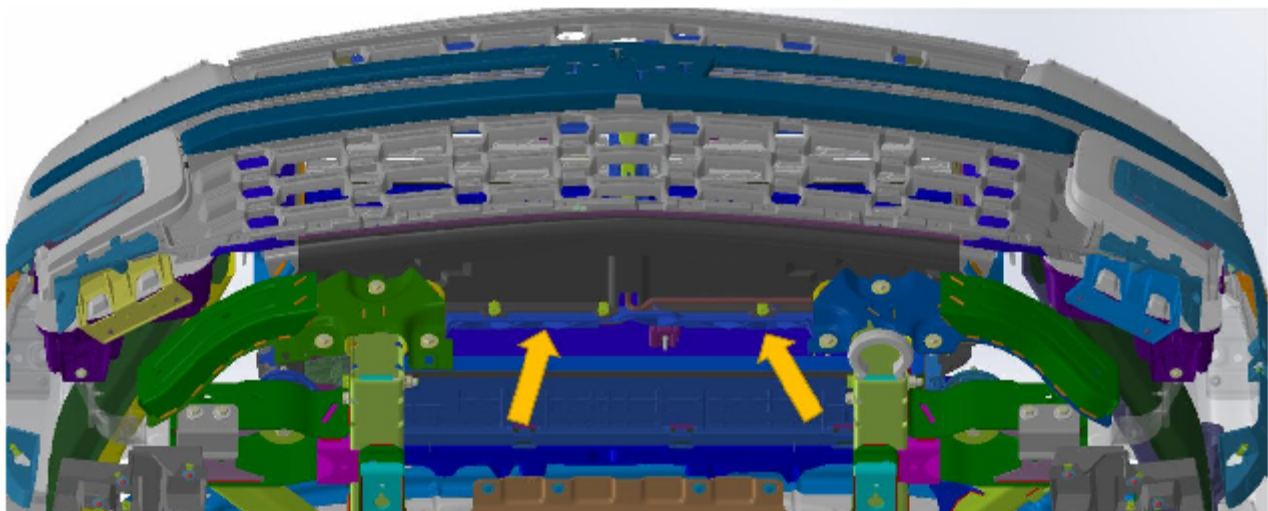
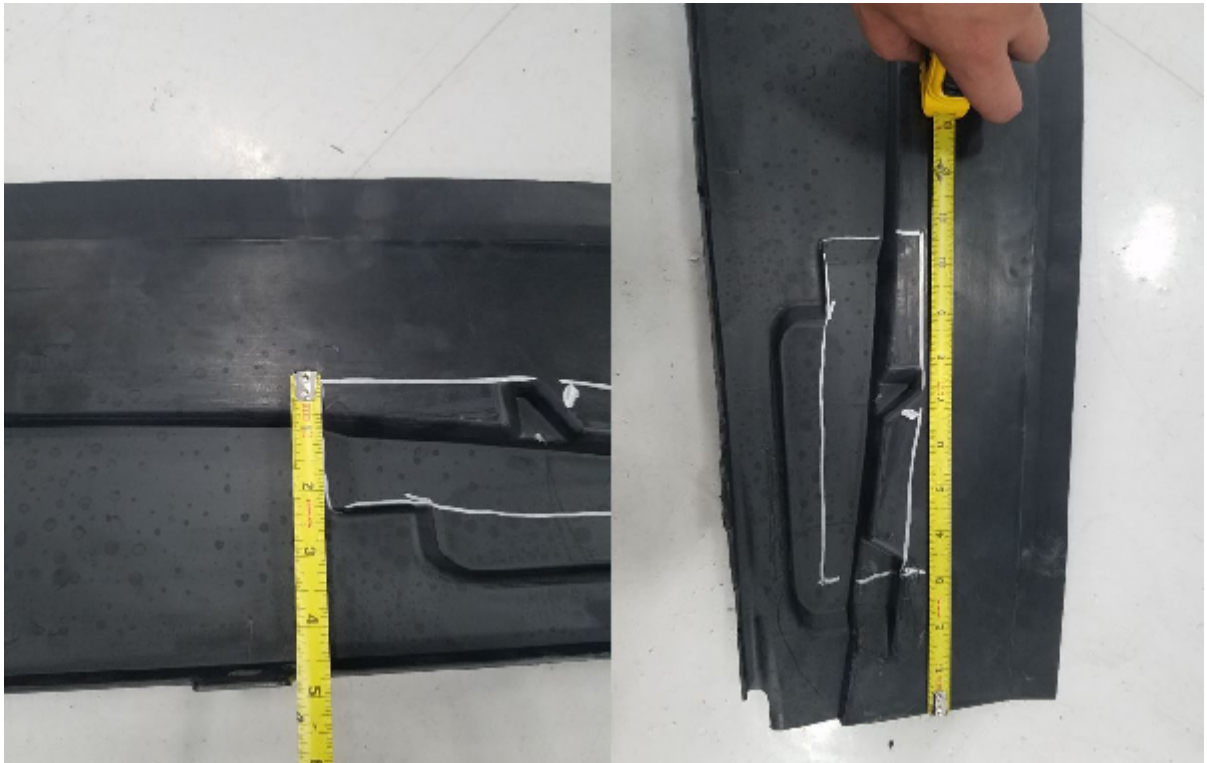

Fig. 4
Fig. 5
5. With front facia removed, remove lower air guide by first remove pop-out clips with a trim tool and pulling forward (Fig. 4), then cut out opening for upper bracket as shown in Fig. 5. on both side of OEM air guide.